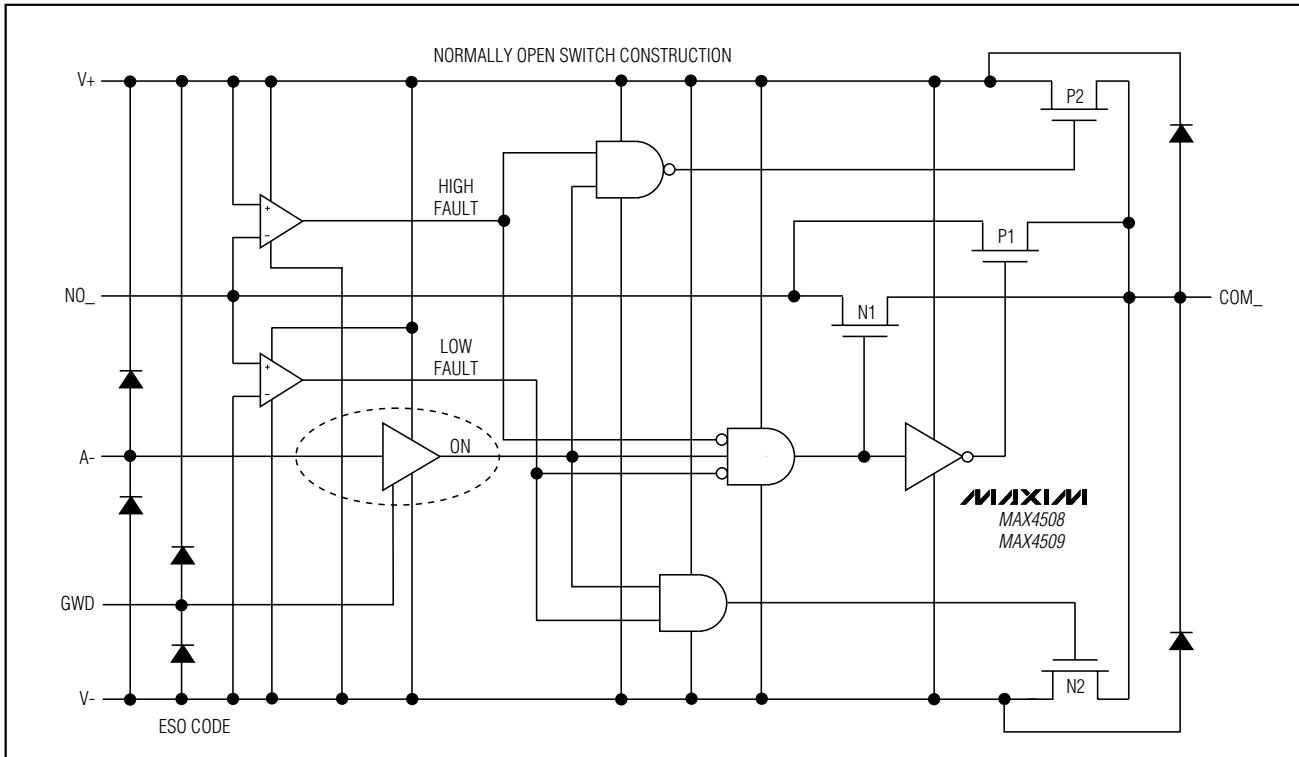

Figure 1. Functional Diagram
Figure 1 shows the internal construction, with the analog signal paths shown in bold. A single normally open (NO) switch is shown. The analog switch is formed by the parallel combination of N-channel FET N1 and P-channel FET P1, which are driven on and off simultaneously, according to the input fault condition and the logic level state.
Two comparators continuously compare the voltage on the NO\_ pin with V+ and V- supply voltages. When the signal on NO\_ is between V+ and V-, the multiplexer behaves normally, with FETs N1 and P1 turning on and off in response to A\_ signals (Figure 1). The parallel
When the signal on NO\_ exceeds V+ by about 150mV, the positive fault comparator output goes high, turning off FETs N1 and P1 (Figure 1). This makes the NO\_ pin high impedance, regardless of the switch state. If the switch state is “off,” all FETs turn off, and both NO\_ and COM\_ are high impedance. If the switch state is “on,” FET P2 turns on, clamping COM\_ to V+.
When the signal on NO\_ goes about 150mV below V-, the negative fault comparator output goes high, turning off FETs N1 and P1 (Figure 1). This makes the NO\_ pin high impedance, regardless of the switch state. If the switch state is “off,” all FETs turn off, and both NO\_ and COM\_ are high impedance. If the switch state is “on,” FET N2 turns on, clamping COM\_ to V-.
FETs N2 and P2 can source about ±10mA from V+ or V- to the COM\_ pin in the fault condition (Figure 1). Ensure that if the COM\_ pin is connected to a low-impedance load, the absolute maximum current rating of 30mA is never exceeded, either in normal or fault conditions.